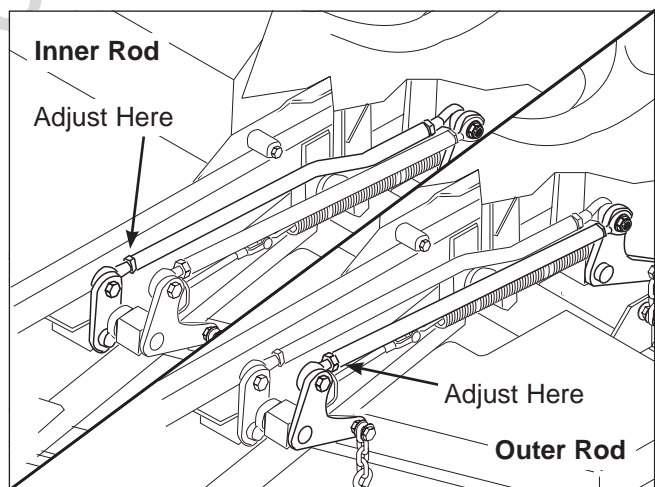

Figure 48. Adjust the Inner & Outer Lift Rods
8. Refer to Figure 48. To adjust the inner lift rod, loosen the jam nut on the front ball joint then remove the 1/2" hardware fastening the ball joint the lift pivot arm. Turn the ball joint clockwise to shorten the distance between the rod pivots or counterclockwise to lengthen the distance between the rod pivots. Reinstall the ball joint on the lift pivot arm and secure with the 1/2" hardware previously removed. Tighten the jam nut against the lift rod.
9. Refer to Figure 48. To adjust the outer lift rod, loosen the jam nut on the front ball joint then remove the 1/2" hardware fastening the ball joint the lift pivot arm. Turn the ball joint clockwise to shorten the distance between the rod pivots or counterclockwise to lengthen the distance between the rod pivots. Reinstall the ball joint on the lift pivot arm and secure with the 1/2" hardware previously removed. Tighten the jam nut against the lift rod.